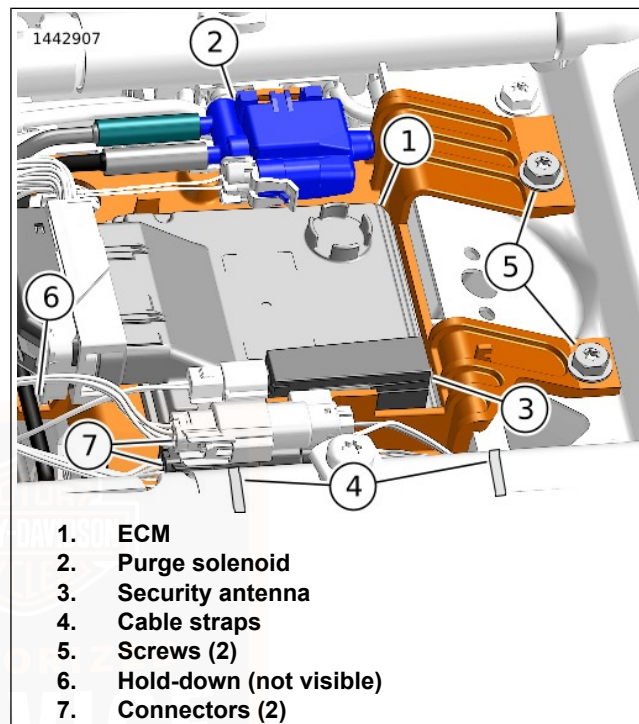

Figure 88. Top Caddy
2. See Figure 88. Release ECM (1) from top caddy. Move out of the way.
3. If present, move purge solenoid (2) up to release from top caddy.
4. **Models with security system:** Release security antenna (3) from top caddy and move out of the way.
5. Release connectors (7) from anchors on top caddy.
6. Remove fasteners (5).
7. Cut cable straps (4). Move harnesses to allow more clearance for the top caddy.
7. See Figure 88. Place top caddy into position and engage latch on hold-down bracket.
8. Fasten top caddy to frame crossmember with fasteners (5). Tighten.